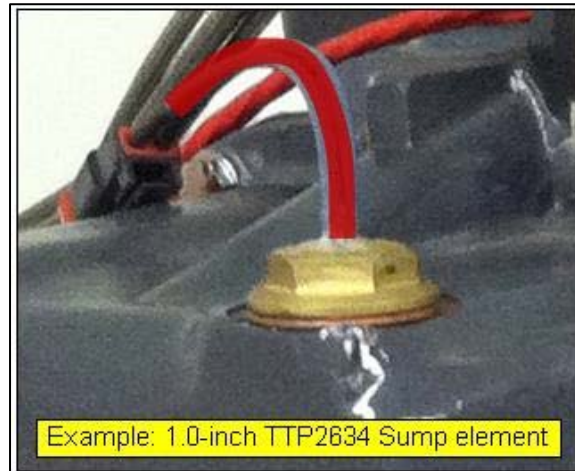

Figure 1. Commander and Lycoming: Sump Element series p/n: TTP2899- (3/4-16 UNF), TTP2634- (1.0-20 UNEF), TTP2842- (1.0-20 UNEF), and TTP3020- (1.5-18 UNEF).
- New annular type crush gasket or thread sealant required and is supplied or sourced separately. Refer to Figures 1 through 3 for sealing requirements.
- Refer to Figures 1 through 3 for engine and element application and install accordingly.